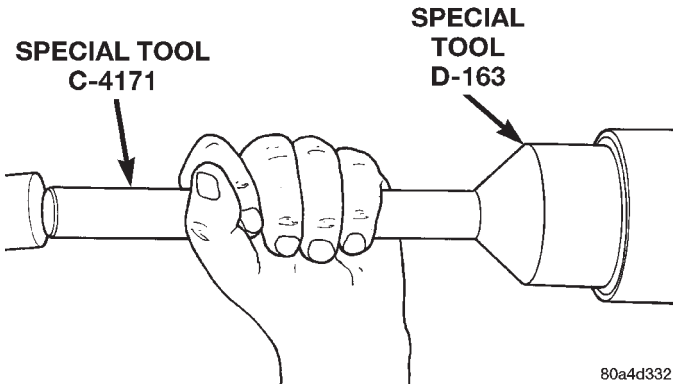

Fig. 7 Pinion Seal Installation
(1) Apply a light coating of gear lubricant on the lip of pinion seal.
(2) Install seal with Installer D-163 and Handle C-4171 (Fig. 7).
(3) Install new pinion seal excluder to pinion yoke.